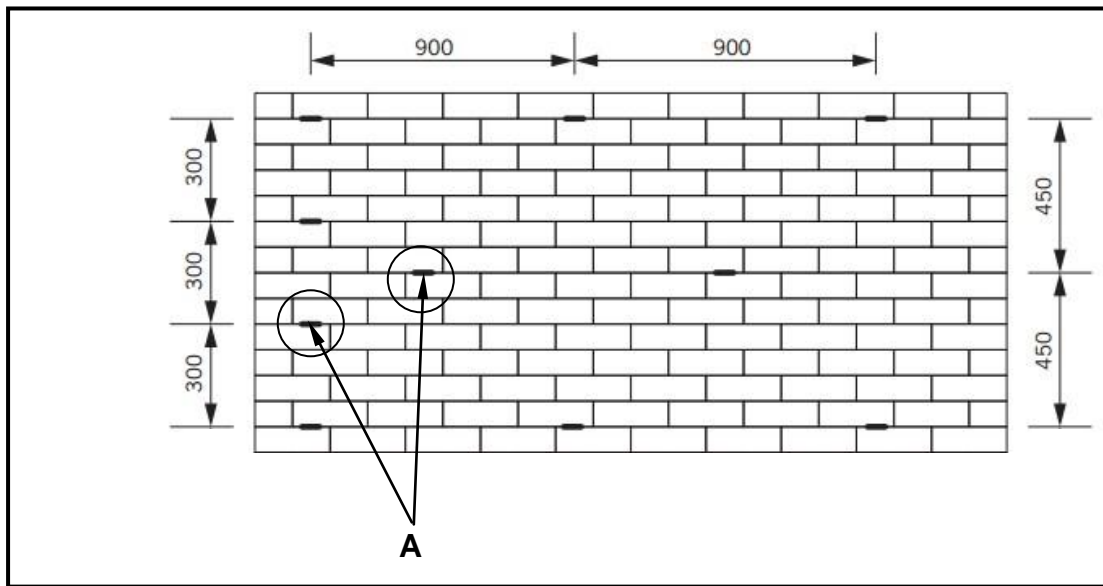

FIGURE 5.4
5.4 FIGURE 5.4 shows the front view of a cavity wall.